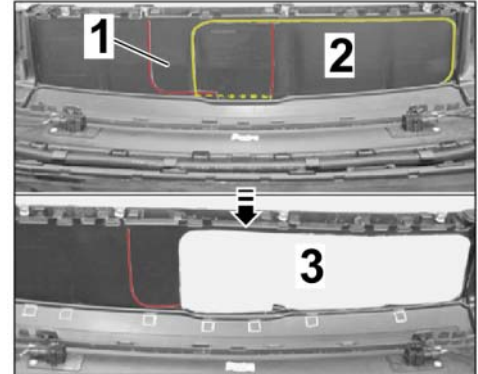

Figure 6
1.9.2 Mark the cut-out for the ball hitch (removable – USA) at the impression on the inside of the rear apron (⇒ *Figure 6 -top-*).
1.9.3 Carefully make the cut-out along the marking (⇒ *Figure 6 -bottom-*).